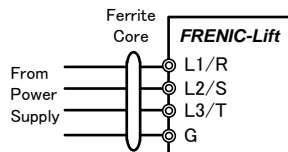

Figure 8.2 Installation for ferrite core
- 4) If radiated noise emissions exceed the requirement by the standard, place a ferrite core on the input side of the inverter, as shown in Figure 8.2.